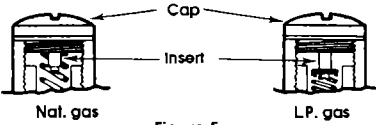

Figure 5
3. Remove the cap with screwdriver slot. Remove the black insert marked "NAT." from the cap (the insert fits very tightly). Reverse the insert and push it firmly back into the cap. The marking "L.P." should appear on the insert. Be sure the insert is pressed into the shoulder. Do not disturb the spring in the body of the regulator. Replace the cap in the body of the regulator and tighten. See Figure 5.